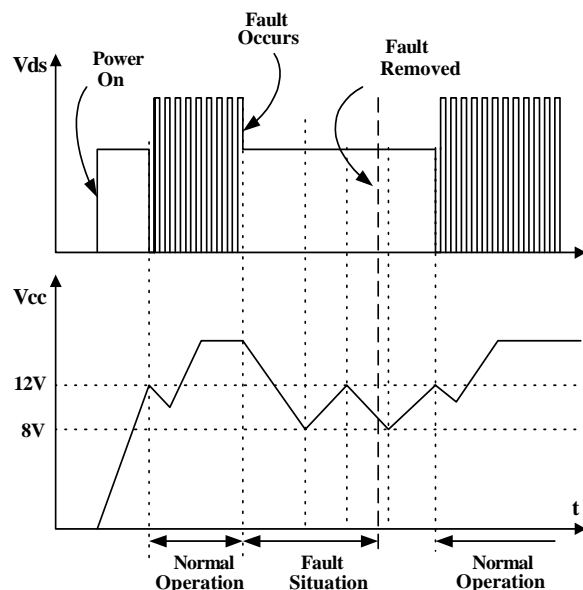

Figure 6. Auto Restart Operation
3. Protection Circuit: The FSDM0465RB has several self protective functions such as over load protection (OLP), over voltage protection (OVP), and thermal shutdown (TSD). Because these protection circuits are fully integrated into the IC without external components, the reliability can be improved without increasing cost. Once the fault condition occurs, switching is terminated and the SenseFET remains off. This causes Vcc to fall. When Vcc reaches the UVLO stop voltage, 8V, the protection is reset and the internal high voltage current source charges the Vcc capacitor via the Vstr pin. When Vcc reaches the UVLO start voltage, 12V, the FSDM0465RB resumes its normal operation. In this manner, the auto-restart can alternately enable and disable the switching of the power Sense FET until the fault condition is eliminated (see Figure 6).